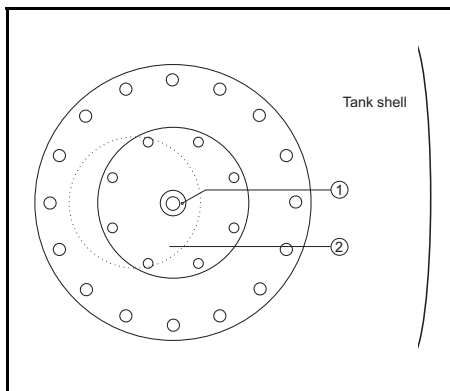

Figure 7.4 Position of antenna assembly on roof (manhole) nozzle
The position of the Antenna Unit is indicated by line (2) in figure 7.4.